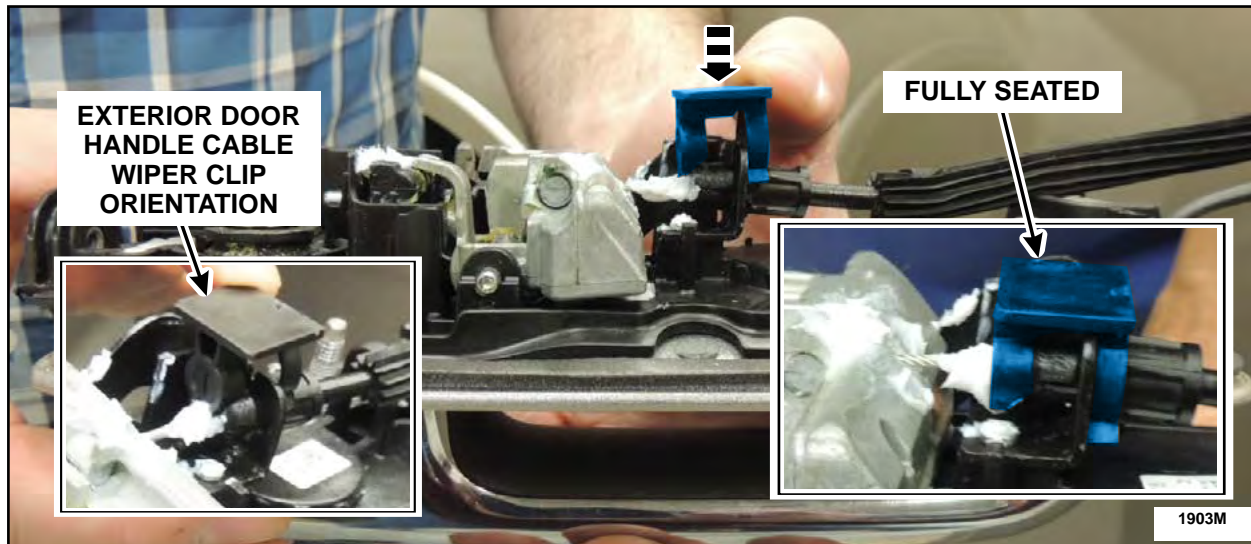

FIGURE 98
26. Install the handle cable wiper clip on the exterior door handle cable end. See Figure 98.